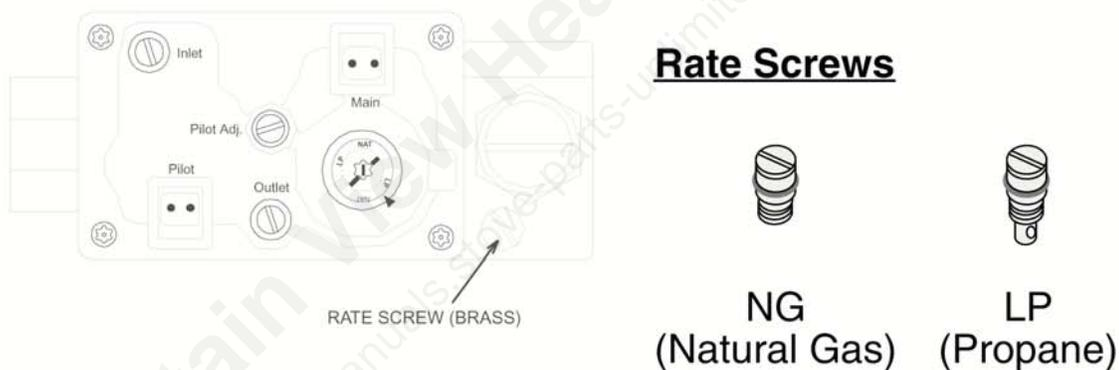

Figure 37
- Remove the NG rate screw and replace it with the LP rate screw included in the owner's pack (see Figure 37). Take care to not damage the rubber o-ring on the rate screw when installing.